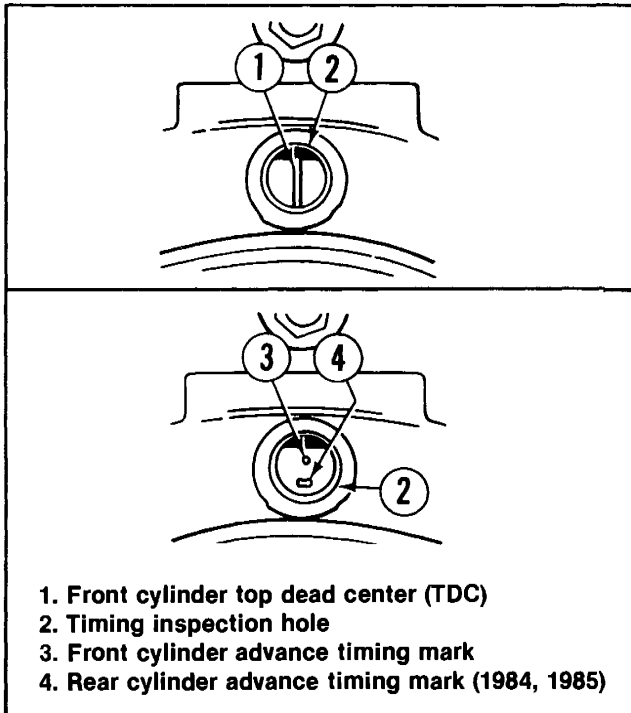

Figure 8-3. Timing Marks
Advance Timing (Figure 8-3)
4. See Figure 8-3. Aim timing light into timing inspection hole. Front cylinder advance timing mark should be centered in timing inspection hole.